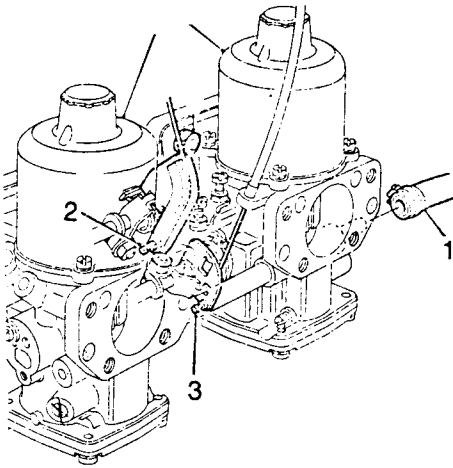

Fig B4.22
- (9) Refer to Fig B4.22. Connect the cold start control cable at the carburettor fixing (3).
- (10) Refit the accelerator cable to the carburettor fixing (2).
- (11) Reconnect the fuel feed pipe (1) to the carburettor.